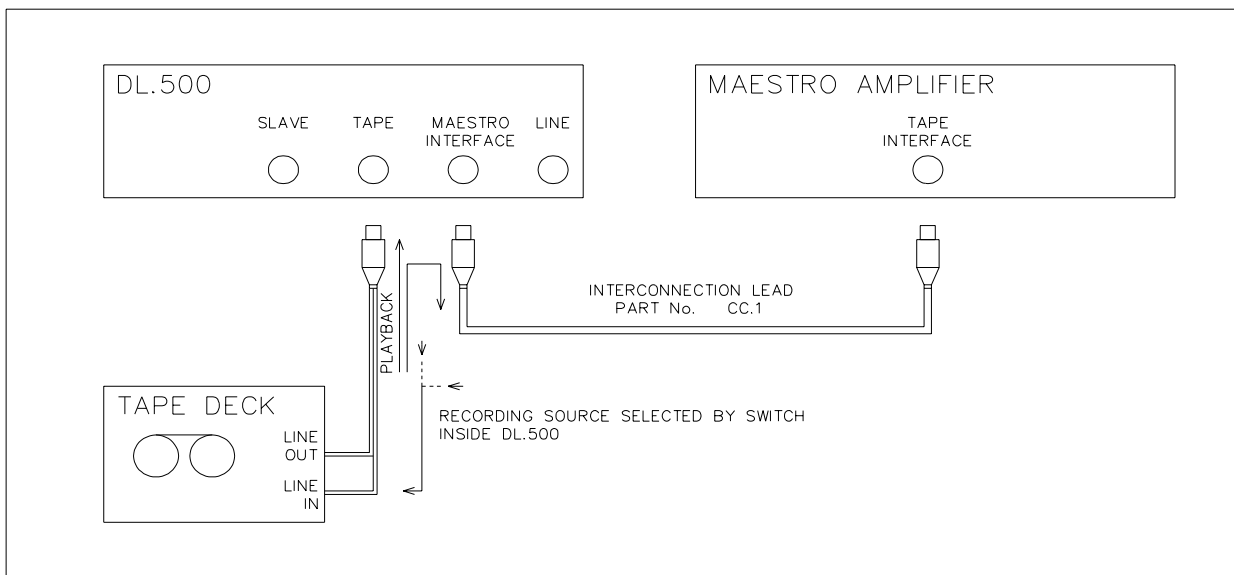
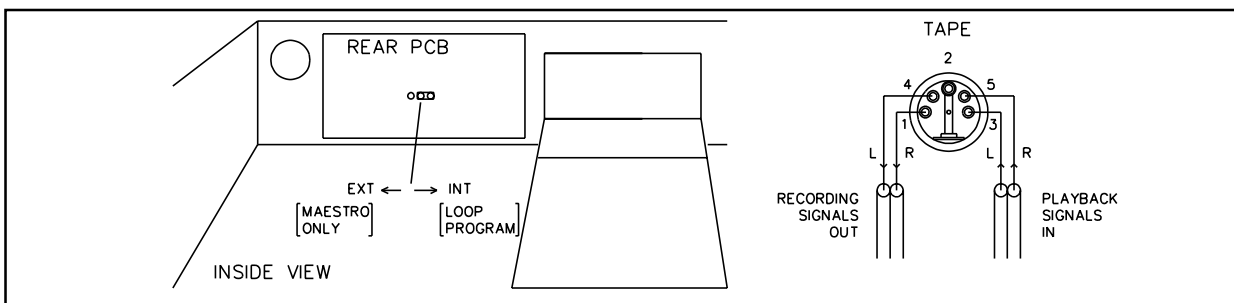

Fig. 4 Tape recording and playback arrangements - and the Maestro Interface
Fig. 5 Recording selector switch location & tape connection detail
By the use of a simple connector lead (optional extra part No. CC.1) between this dedicated socket and the Maestro 'Tape Interface' socket, all sound signals provided by the amplifier system will be passed automatically to the DL.500. Tape record/playback facilities will then be transferred to the DL.500 - see Fig. 4. See also page 12 - Using the DL.500 with a Maestro Amplifier system.
3. If the DL.500 is interconnected to a Maestro amplifier as described above, the amplifier's 'Tape Interface' connection is used. The DL.500 'Tape' connection fully replicates this facility. See Fig. 4 above. Further, by means of an internal switch setting (see Fig. 5 below) the recording source may be selected from either:-